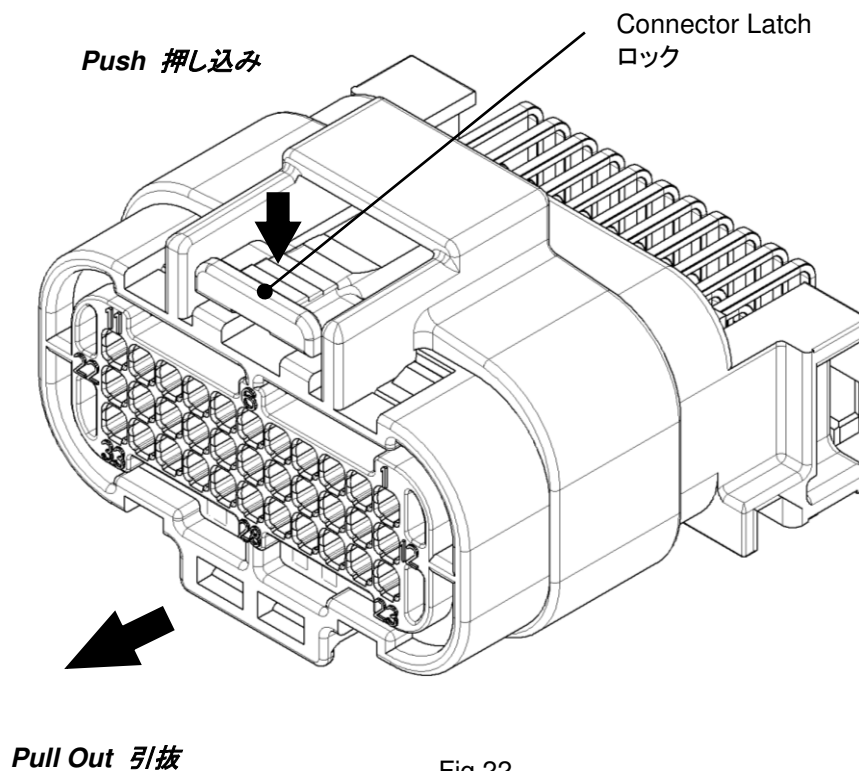

Fig.22
- (1) Push the lock arm toward the connector to release the lock from the male housing with holding the female housing. Pull the female housing from the male connector until fully disengaged. (See Fig.22)
メスハウジングをつかんだ状態でロックを押し下げて解除し、メスコネクタを引き抜きます。(図 22 参照)